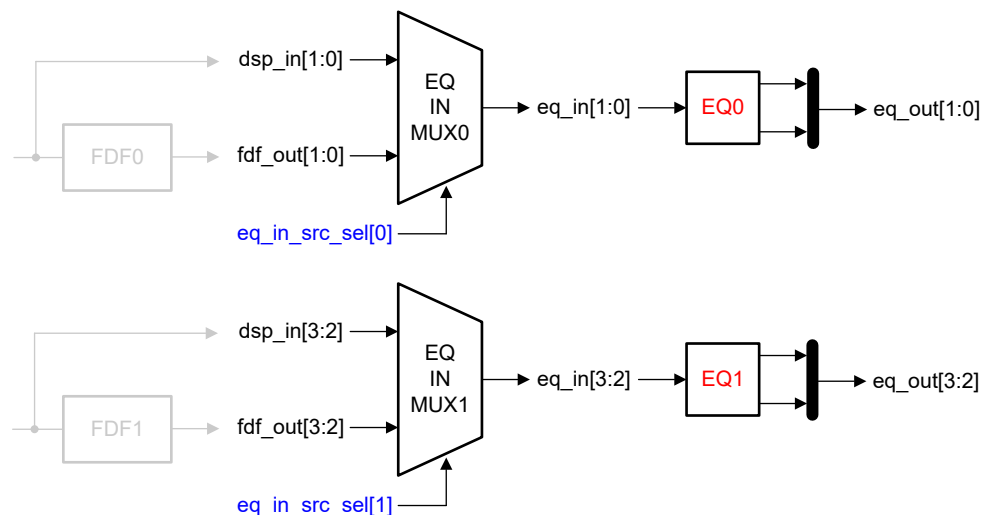

Figure 7-18. FIR Equalizer Configurations
The ADC34RF7x devices include an integrated programmable FIR filter block referred to as an equalizer (EQ). As illustrated in Figure 7-18, there are two EQ blocks (EQ0 and EQ1) which are located at the output of the fractional delay filters (FDF0/1). Each EQ block can source the input data stream from either `dsp_in` directly or from the preceding FDF block. There are a total of four output data streams (`eq_out[3:0]`) where each output stream corresponds to a distinct filtered input stream.